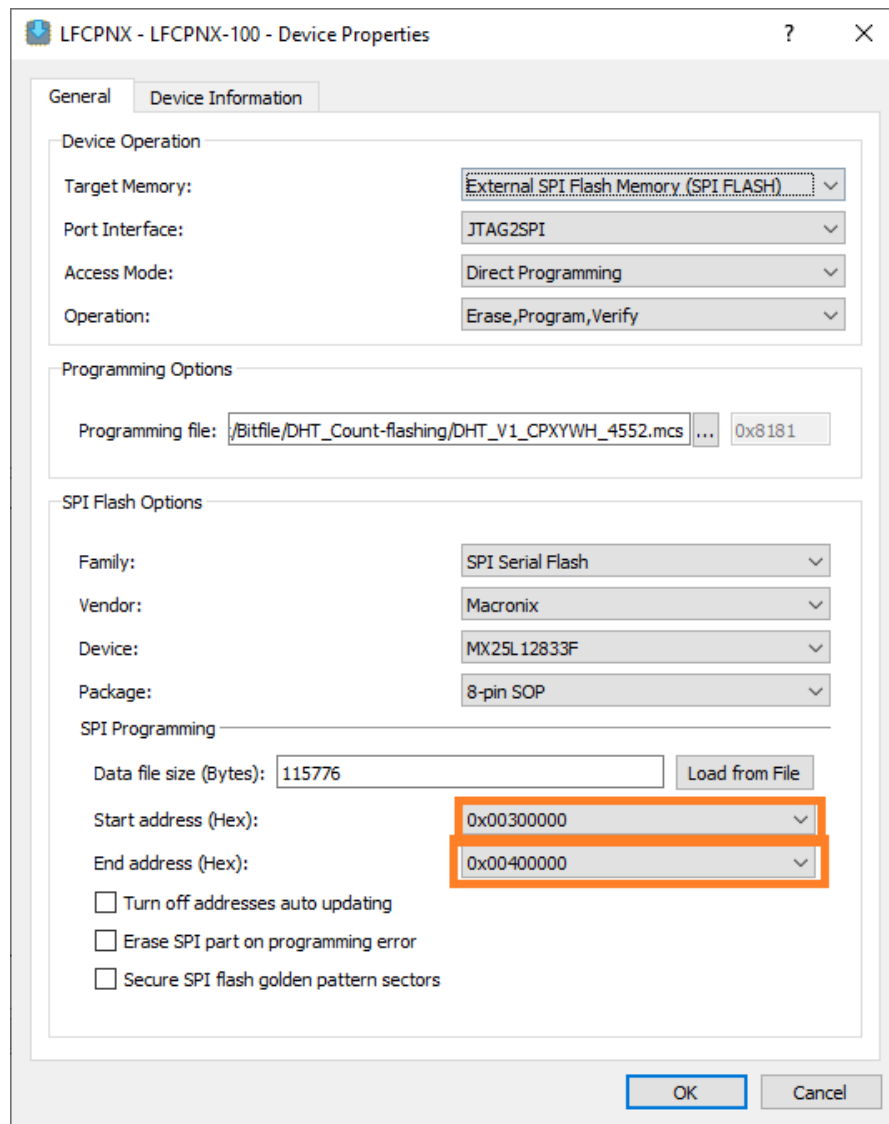

Figure 4.9. Radiant Programmer – Selecting Device Properties Options for CertusPro-NX Flashing
2. In the Radiant Programmer main interface, right-click the CertusPro-NX row. Select **Device Properties** to open the dialog box, as shown in Figure 4.9.
5. For SPI Flash Options, follow the configurations in Figure 4.9.